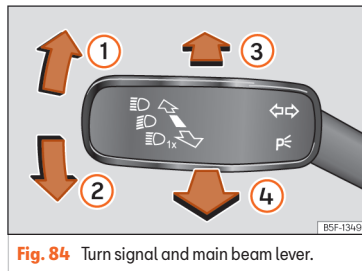

Fig. 84 Turn signal and main beam lever.
- From the base position, press the turn signal and main beam headlights lever forwards  **Fig. 84** .
- **EITHER:** if main beam assist is on, pull the turn signal light and main beam headlights lever back  **Fig. 84** .